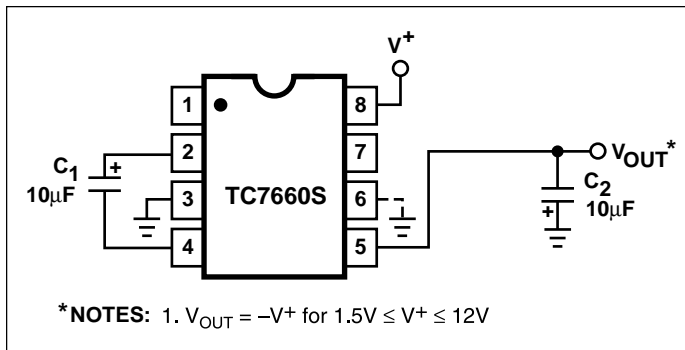
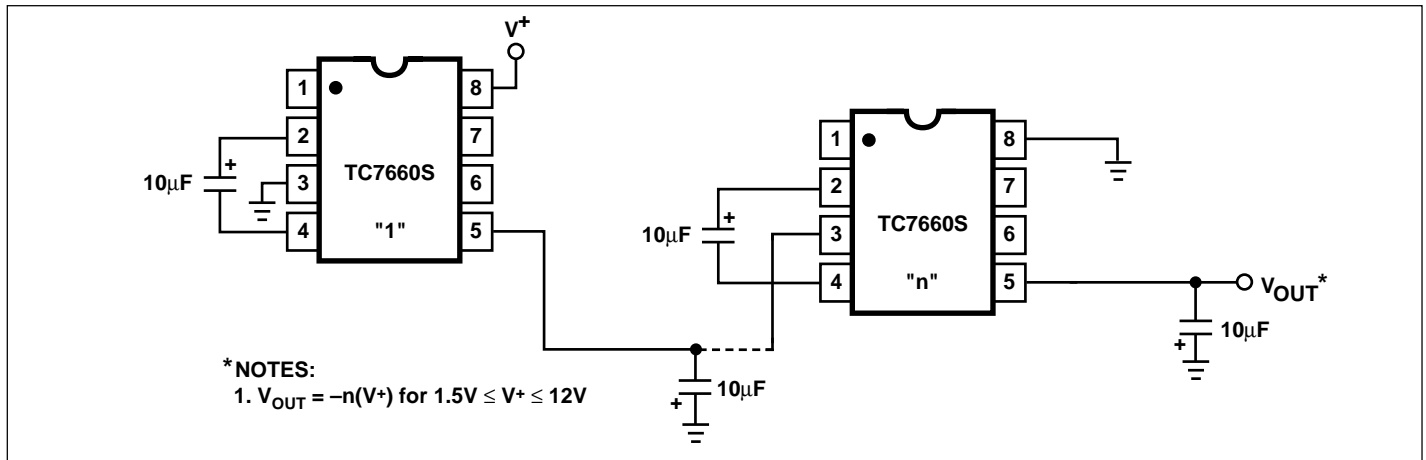
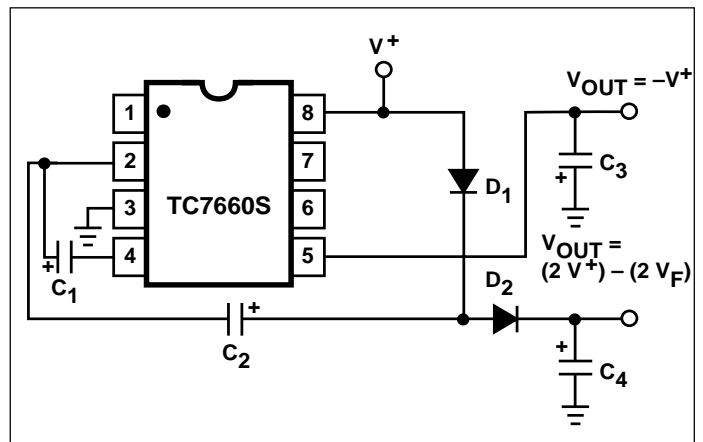
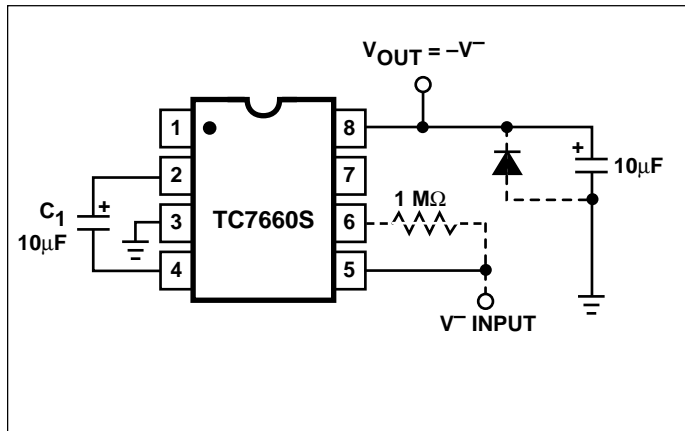

Figure 3. Simple Negative Converter
Figure 5. Increased Output Voltage by Cascading Devices
Figure 9. Combined Negative Converter and Positive Multiplier
Figure 10. Positive Voltage Multiplier
Figure 3 shows typical connections to provide a negative supply where a positive supply is available. A similar scheme may be employed for supply voltages anywhere in the operating range of +1.5V to +12V, keeping in mind that pin 6 (LV) is tied to the supply negative (GND) only for supply voltages below 3.5V.
The output characteristics of the circuit in Figure 3 are those of a nearly ideal voltage source in series with 70Ω . Thus, for a load current of $-10mA$ and a supply voltage of $+5V$, the output voltage would be $-4.3V$.
The TC7660S may be cascaded as shown (Figure 5) to produce larger negative multiplication of the initial supply voltage. However, due to the finite efficiency of each device, the practical limit is 10 devices for light loads. The output voltage is defined by:
Figure 9 combines the functions shown in Figures 3 and 8 to provide negative voltage conversion and positive voltage multiplication simultaneously. This approach would be, for example, suitable for generating +9V and -5V from an existing +5V supply. In this instance, capacitors C_1 and C_3 perform the pump and reservoir functions, respectively, for the generation of the negative voltage, while capacitors C_2 and C_4 are pump and reservoir, respectively, for the multiplied positive voltage. There is a penalty in this configuration which combines both functions, however, in that the source impedances of the generated supplies will be somewhat higher due to the finite impedance of the common charge pump driver at pin 2 of the device.
Since the switches that allow the charge pumping operation are bidirectional, the charge transfer can be performed backwards as easily as forwards. Figure 10 shows a TC7660S transforming -5V to +5V (or +5V to +10V, etc.). The only problem here is that the internal clock and switch-drive section will not operate until some positive voltage has been generated. An initial inefficient pump, as shown in Figure 9, could be used to start this circuit up, after which it
will bypass the other (D_1 and D_2 in Figure 9 would never turn on), or else the diode and resistor shown dotted in Figure 10 can be used to "force" the internal regulator on.
The same bidirectional characteristics used in Figure 10 can also be used to split a higher supply in half, as shown in Figure 11. The combined load will be evenly shared between the two sides. Once again, a high value resistor to the LV pin ensures start-up. Because the switches share the load in parallel, the output impedance is much lower than in the standard circuits, and higher currents can be drawn from the device. By using this circuit, and then the circuit of Figure 5, +15V can be converted (via +7.5V and -7.5V) to a nominal -15V, though with rather high series resistance (~250 Ω).